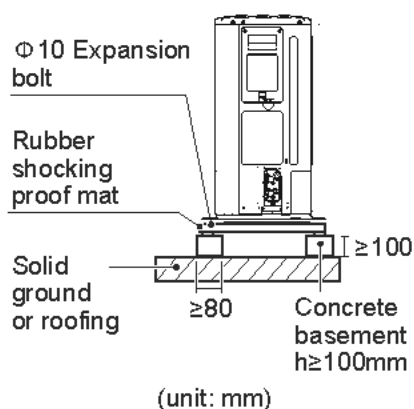

Fig. 6-3
- If water does not easily drain from the unit, mount the unit on a foundation of concrete blocks, etc. (the height of the foundation should be about 100 mm. (in Fig.6-3))